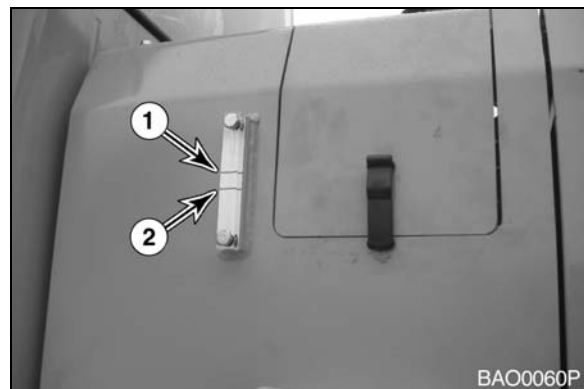
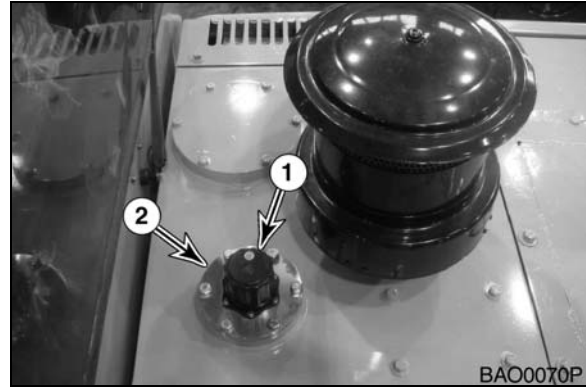

Figure 12
Figure 13
4. Check sight gauge that is attached to hydraulic reservoir. Oil level must be between upper limit (1, Figure 12) and lower limit (2) shown on gauge.
5. To add hydraulic oil, turn breather cap (1, Figure 13) slowly to allow pressurized air to vent.
6. Remove upper cover (2, Figure 13) from hydraulic oil tank and add oil to proper level by checking sight glass (Figure 12).